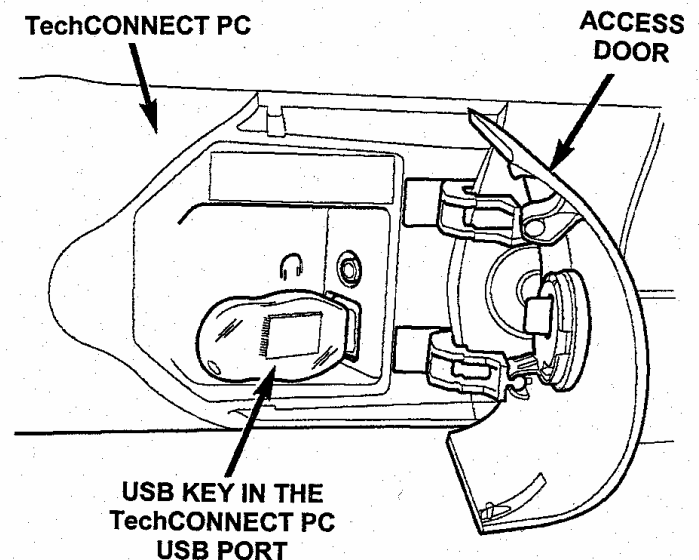

Figure 1
2. Insert the USB key into the USB port on the TechCONNECT PC (Figure 1).